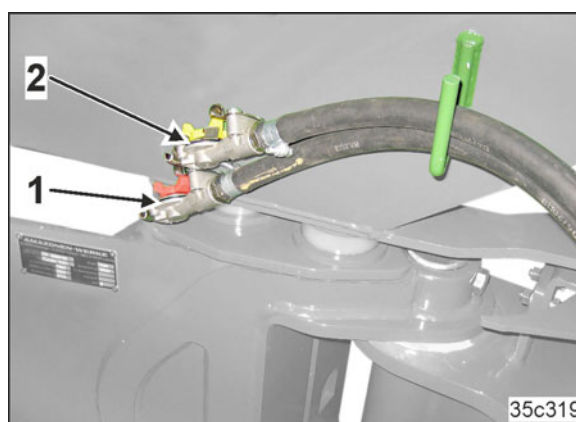

Fig. 32
- a supply line (Fig. 32/1) with coupling head (red).
- a brake line (Fig. 32/2) with coupling head (yellow).